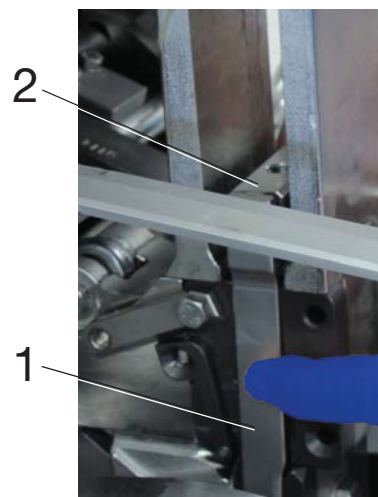

Fig. 7-11 1 Punch (sausage outlet side)
- Then push the left punch on to the punch holder (2, Fig. 7-11) and insert from the top from the sausage outlet side.